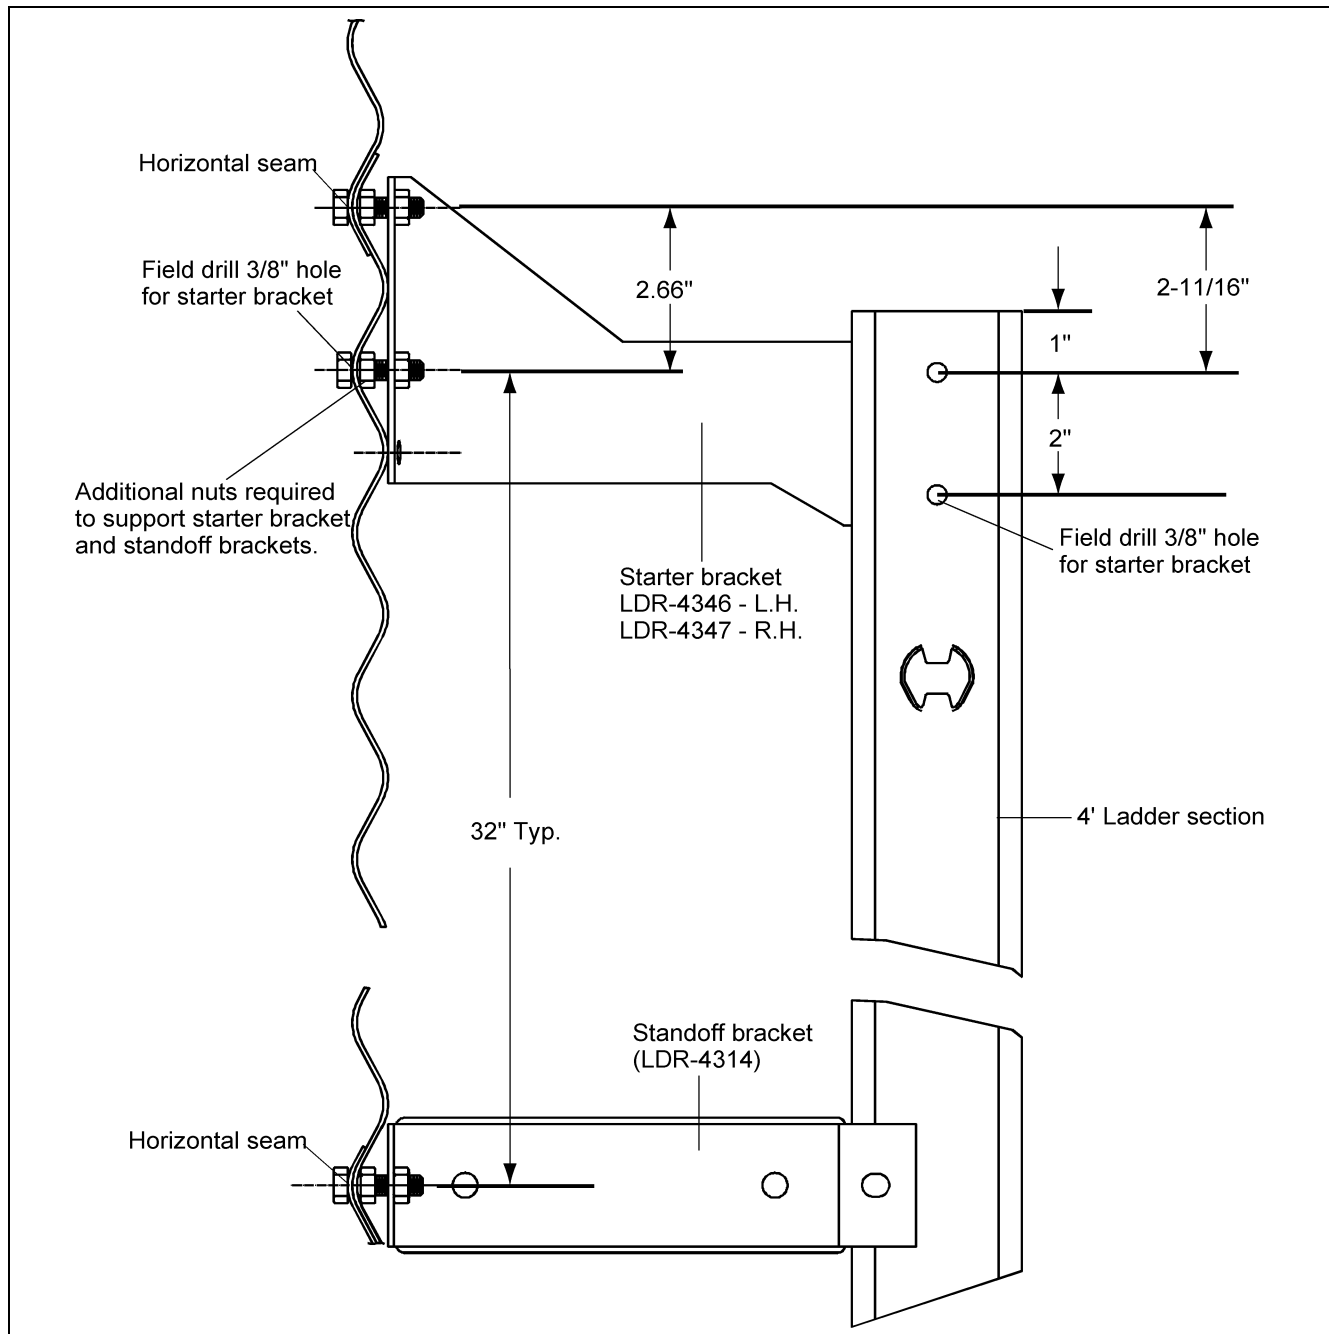

Figure 6U
After drilling the two (2) 3/8" holes, attach the starter brackets to the sidewall as shown in Figure 6U. Check the top ladder section to make sure the ladder rung dimples are to the top surface and attach to the starter brackets using the holes located 1" from the top of the ladder. See General Detail Information on Page 12 for proper installation of additional ladder sections required. Standoff brackets must be installed on the ladder sections and attached to the sidewall at each horizontal seam (repeating every 32") until reaching the base platform. (Use 5/16" x 3/4" bin bolts for all connections.) In addition to the two (2) field drilled holes in the sidewall for the starter bracket, it is also necessary to field drill a 3/8" hole in the ladder section for the starter bracket. Refer to the section in these instructions that references the location of the base platforms.